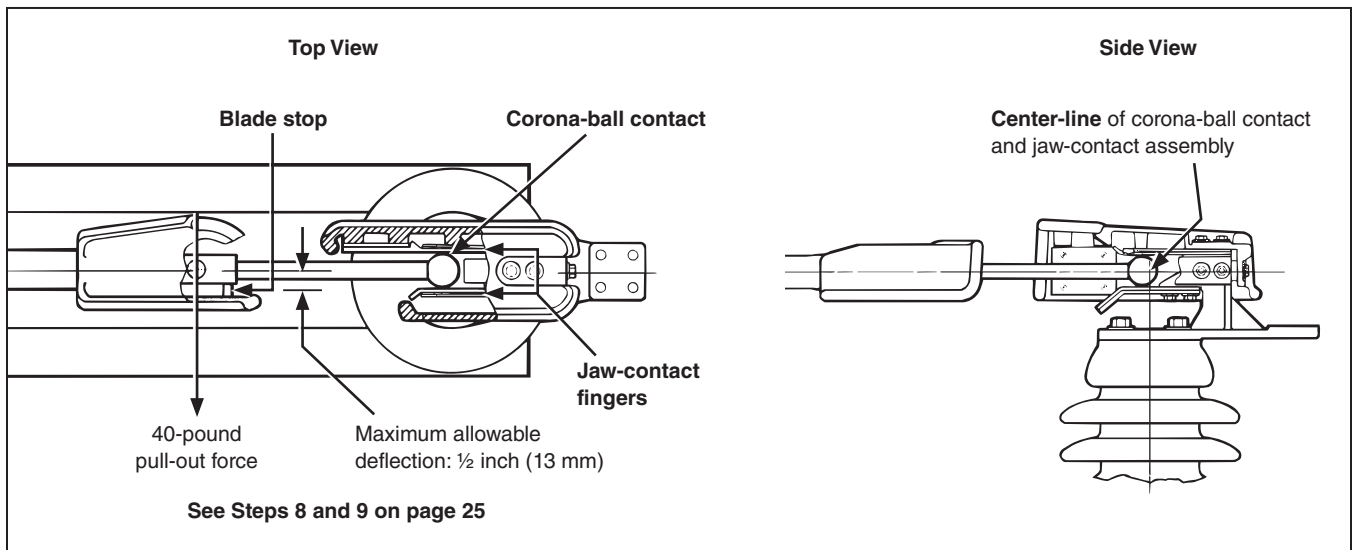

Figure 24. Checking the engagement of the disconnect-blade corona-ball contact with the jaw-contact fingers.
STEP 4. Close the disconnect blade on each pole-unit. The disconnect-blade corona-ball contact must be centered on its jaw-contact fingers, and the blade must touch its stop as indicated in Figure 24.
STEP 7. Check for proper blade closure at the center pole-unit marked “Pole 2.” With a pull-out force of approximately 40 pounds applied at the position indicated in Figure 24 on page 23, the blade deflection should be no more than ½-inch (13 mm).
STEP 8. Check for proper blade closure at the two outboard pole-units marked “Pole 1” and “Pole 3.” With a pull-out force of approximately 40 pounds applied at the position indicated in Figure 24 on page 23, the blade deflection should be no more than ½ inch (13 mm).